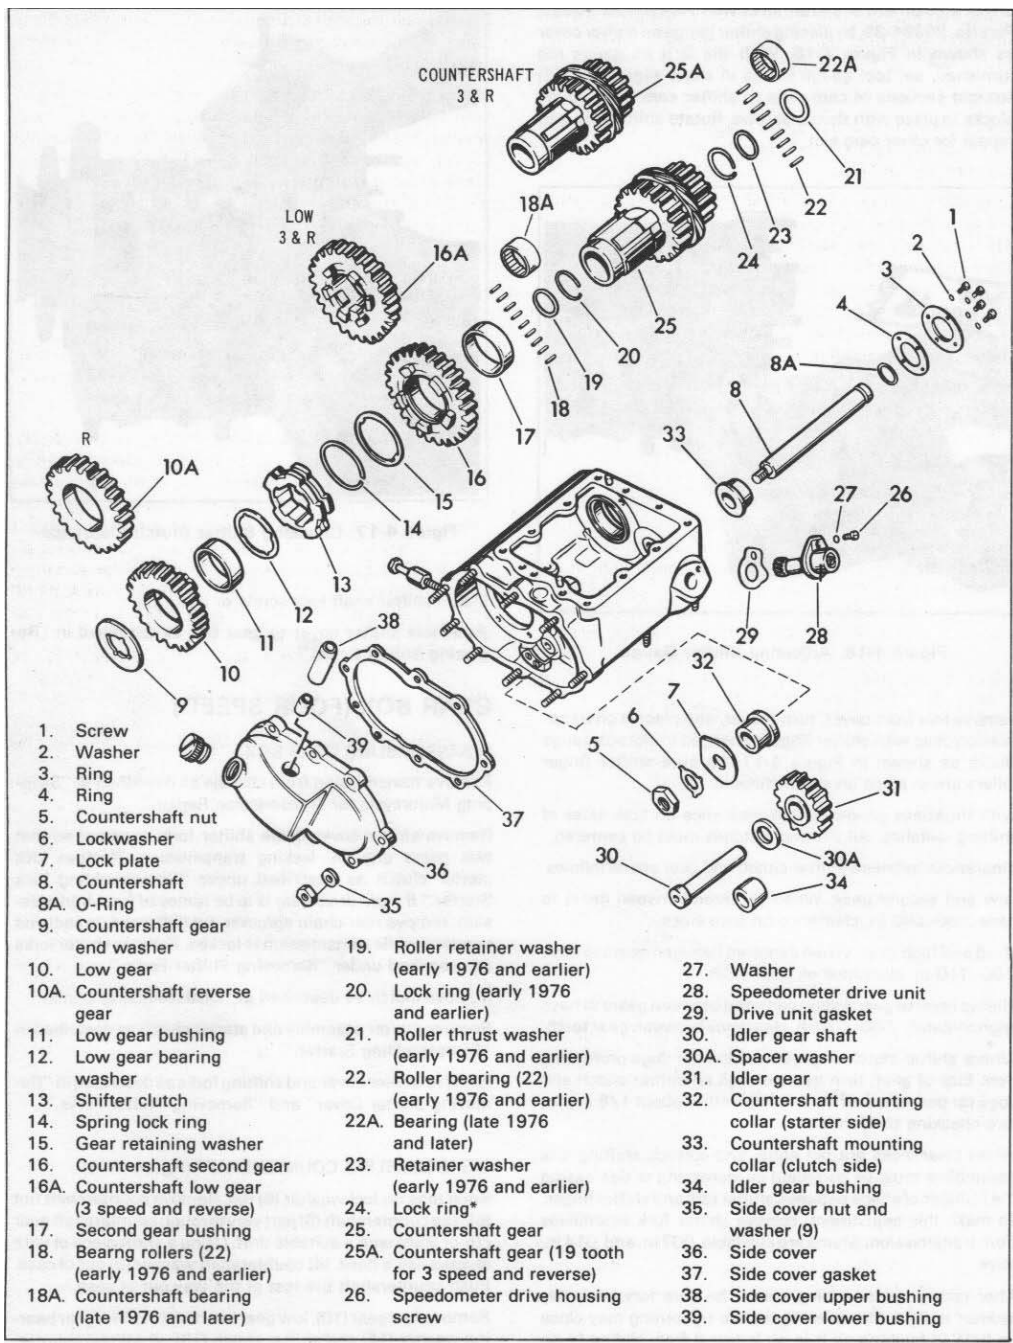
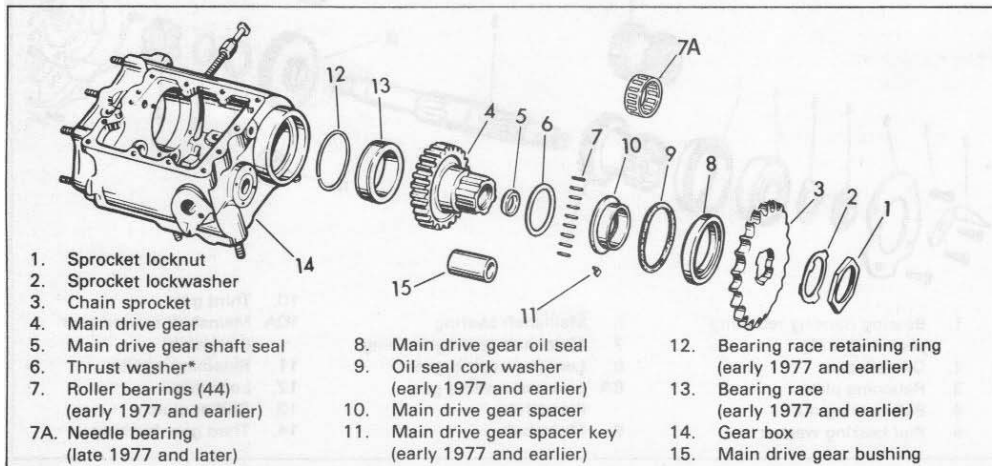

Figure 4-18. Countershaft and Case Assembly - Exploded View
Figure 4-20. Main Drive Gear - Exploded View
DISASSEMBLING COUNTERSHAFT (Figure 4-18)
DISASSEMBLING MAIN DRIVE GEAR (Figure 4-20)
To install main drive gear bearing race (13, Figure 4-20), heat case to about 300 degrees and press out old race with arbor press after removing bearing race retaining ring (12). Reheat case and press in new race until flange is seated against case. Install new bearing race retaining ring.
Carefully check shifter clutches (13, Figures 4-18 and 4-19) and engaging dogs on gears. If they are rounded or battered appearing, they must be replaced.
Check bearings (7 and 7A, Figure 4-20 and 18, 18A, 22 and 22A, Figure 4-18) for proper fit in races according to tolerances shown in "Transmission Specifications." Replacement rollers are available standard, .0004 in. and .0008 in. oversize.
(Figure 4-20)
If working on three-speed transmission, install reverse idler gear (31, Figure 4-18) and shaft before installing retaining plate.
ASSEMBLING COUNTERSHAFT (Figure 4-18)
Refer to Figure 4-18. In three-speed and reverse countershaft assembly, omit shifter clutch (13), lock ring (14), thrust washer (15) and gear bushing (17).